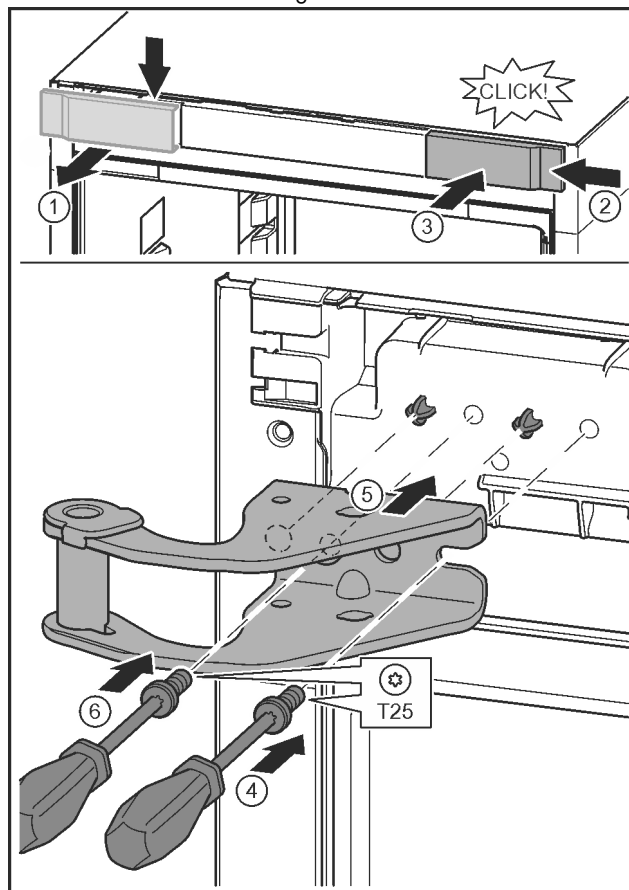

Fig. 13
- Release the cover and remove from the side. Fig. 13 (1)
- Rotate the cover 180° and clip onto the other side from the right. Fig. 13 (2)
- Click the cover into place. Fig. 13 (3)
- Position the screw with a T25 screwdriver. Fig. 13 (4)
- Position the upper bearing bracket. Fig. 13 (5)
- Tighten the screw. Fig. 13 (4)
- Insert the screw with a T25 screwdriver and tighten. Fig. 13 (6)